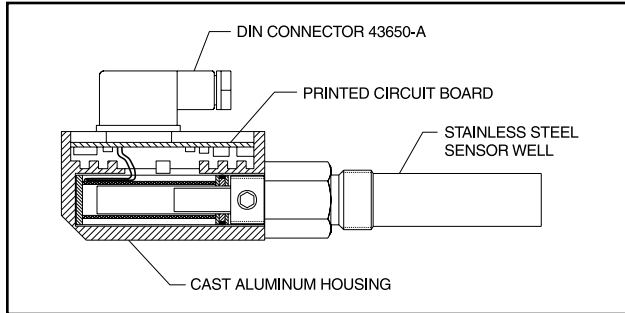
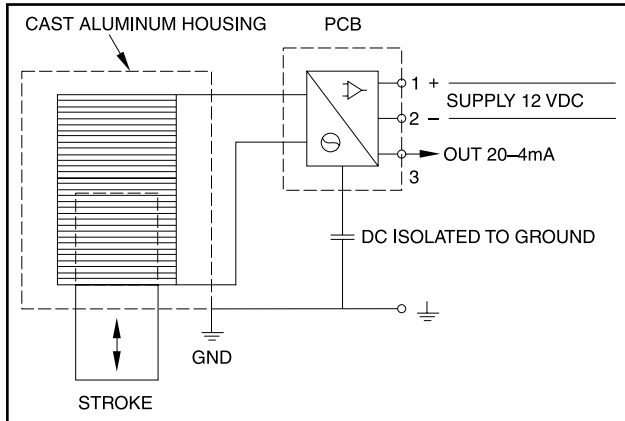

Figure 5 - Slide Stop Transmitter
Figure 6 - Wiring Diagram for Slide Stop Transmitter
The slide stop transmitter (Figure 5) measures the position of the slide stop (SS) using a 20 to 4 mA signal to cover the range of minimum to maximum VI. The signal is sent to your control system so that it can adjust the position of SS according to system pressures. The correct SS position is important to achieve the most efficient compressor operation. Connect to +/- and signal as show in the wiring diagram in Figure 6. Refer to Frick compressor panel instructions S90-020 for calibration procedure.